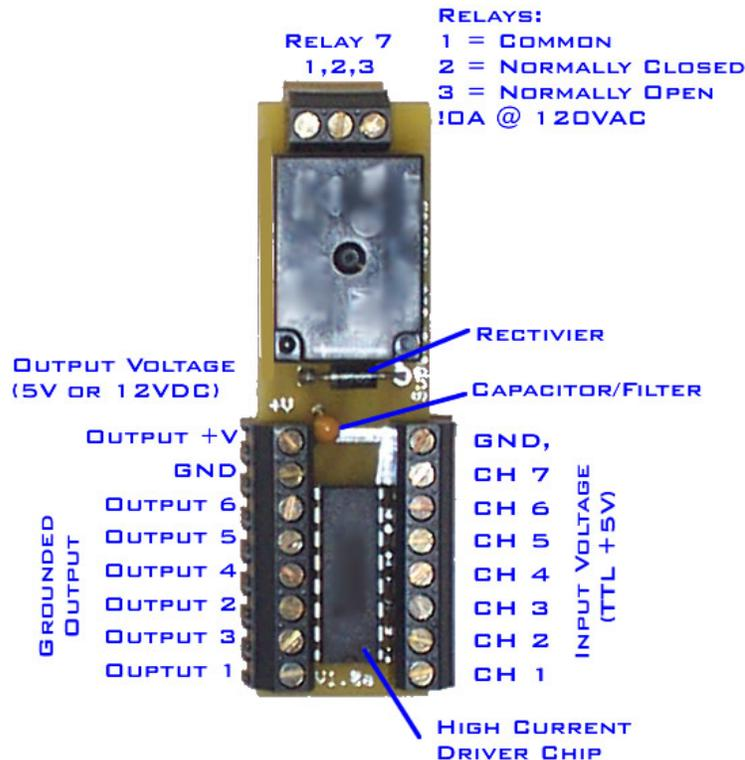

Figure 3: TTL High Current Driver with 1 Power Relay
1. Start by laying the board out in front of you. The Label should be on the bottom middle topside. Refer to Figure 3.
2. Insert the Diode. Orientation of the Diode is important. It will short the circuit if put in the wrong way. The lead that comes out of the side of the diode with a line on it should go in the square pad hole (face towards the left edge of the board as shown in Figure 3).
3. Insert the capacitor as shown in Figure 3. Orientation is not important.
4. Install the Screw Terminals (if provided) as shown in Figure 3.
5. Insert the Relay as shown in Figure 3. Push the relay down so it's all flat and start soldering the terminals, checking to make sure the relay stay flat.
6. Insert the high current driver IC. The orientation is important. The chip will be shorted and will not work if put in wrong. Pin one goes in the square pad hole such that the notch on the chip is closest to the label on the board. Refer to Figure 3.
7. Attach either 12VDC or 5VDC to the Output Voltage using the polarity shown in Figure 3. Turn on the power, no sparks or smoke should appear at this time.